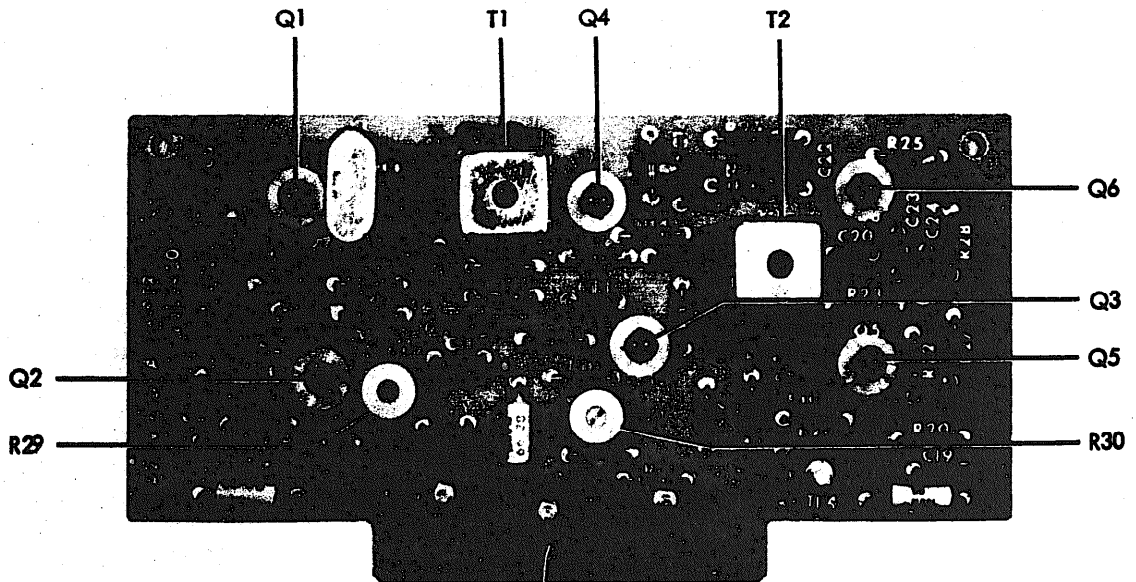

Figure 4-2 Module A2, VFO Amplifier C02300400
4. VFO Amplifier, module A2 (Figure 4-2)